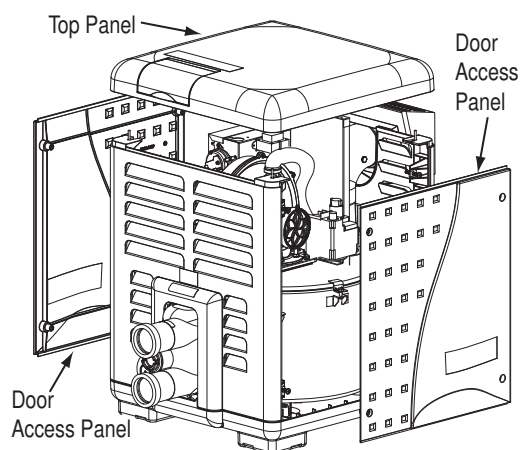

Figure 32.
1. Unbolt and remove the door panels (see **Figure 32**).